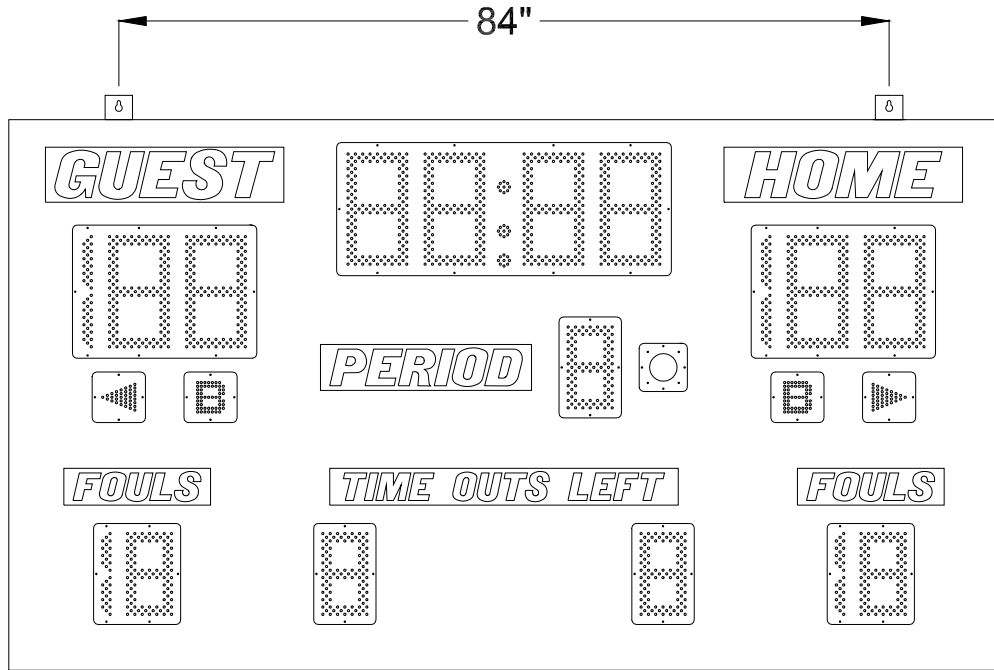

Figure 1 Model 2550 Mounting Points
3. Insert lag bolts or other suitable fasteners through the hanger brackets and fasten the scoreboard to the wall. Figure 1 shows the mounting point locations for model 2550.